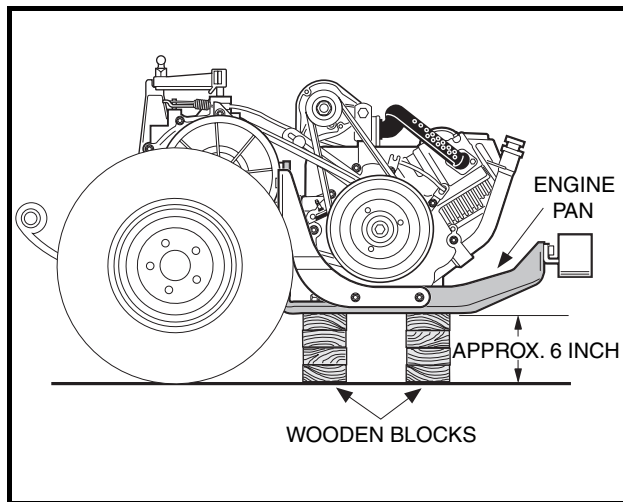

Figure 16-28 Position Powertrain
15. Place blocks under the engine pan so they will completely support the engine and keep it **level to the floor (Figure 16-28, Page 16-12)**. See following **NOTE**.